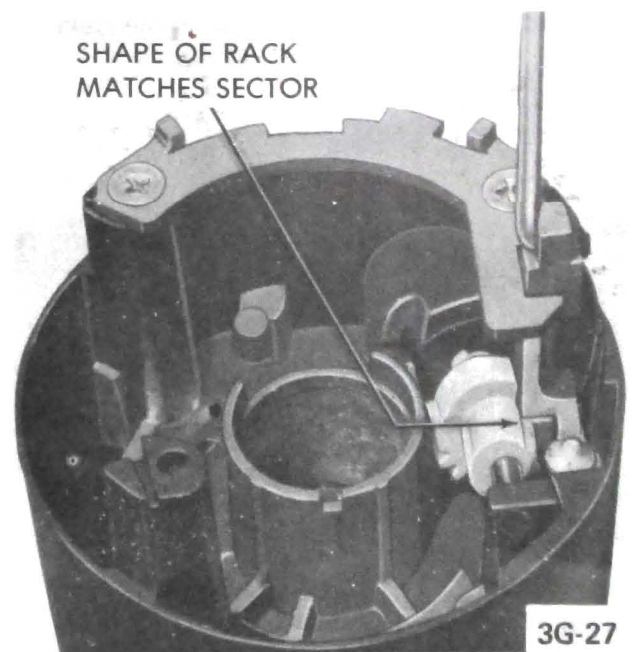

Figure 3G-47 - Rack and Lock Bolt Assembled to Sector
5. Insert the rack and lock bolt into the housing from the bottom with the teeth up (toward steering wheel) and toward the centerline of the column. See Figure 3G-47.